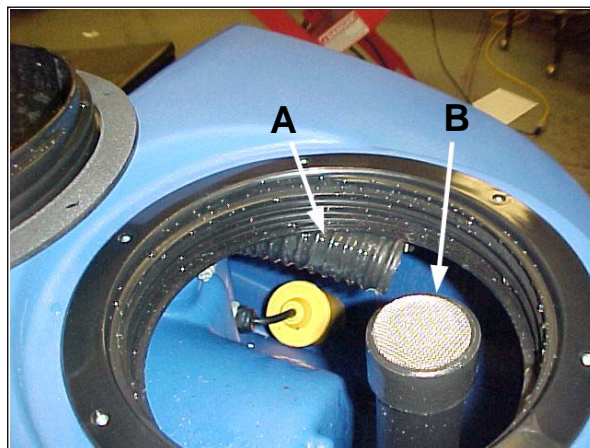

Figure 35
12. If the tank or recovery hose has an obstruction, use water pressure to flush them. Put the water hose into the recovery hose (figure 35, A). **NOTE: Do not place water hose in vacuum intake tube (see figure 35, B), damage will occur.**
The recovery hose (figure 35, A) is located to the right of the vacuum intake tube (see figure 35, B). The recovery hose is flexible, which will allow you to move it toward the opening for easy access to the water hose for flushing the line.